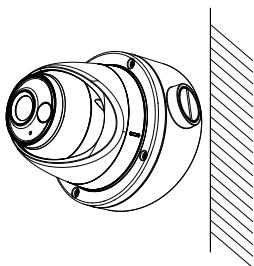

Figure 2-8 Install the Camera to the Inclined Ceiling Mount
5. Install the inclined ceiling mount's body on the ceiling/wall with four PA4 × 25 screws, as shown in Figure 2-8.